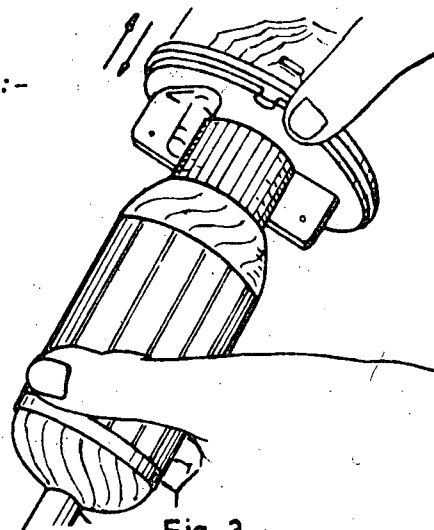

Fig. 3
- a) Check the wear in the bushing (fig. 3).